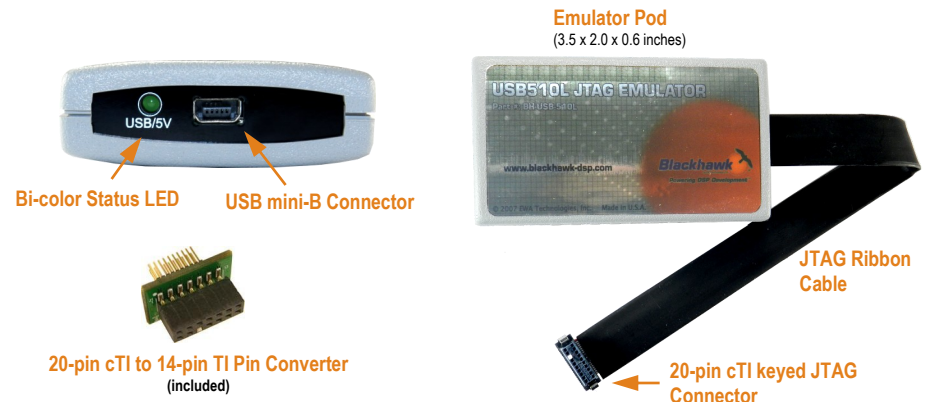

FIGURE 1—USB510L JTAG Emulator Views and Pin Converter
2. Then attach the other end of the USB cable (mini-B connector) to the USB connector of the **USB510L** Emulator (see Figure 1).
6. Attach the emulator's JTAG cable with keyed 20-pin compact TI socket (see figure 1) to your target board's JTAG header.